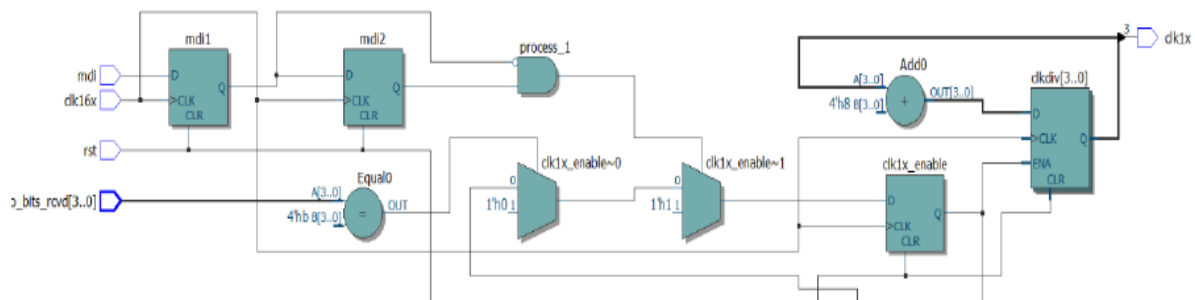

Figure 6: RTL level of reception clock management
The objective of the first three processes is the management of the reception clock. Figure 6 shows the generated RTL by these three processes.
- 1- For figures 6, 7 and 8, write the algorithms to calculate the outputs as functions of the inputs.